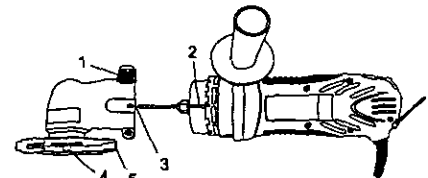

Fig. 25
1. Release locking lever (1) on angle grinder attachment housing (see Fig. 25).
2. Match up key (2) on motor housing and slot (3) in angle grinder attachment. There are also arrows on the motor housing and angle grinder attachment housing. Slide angle grinder attachment onto the motor housing.